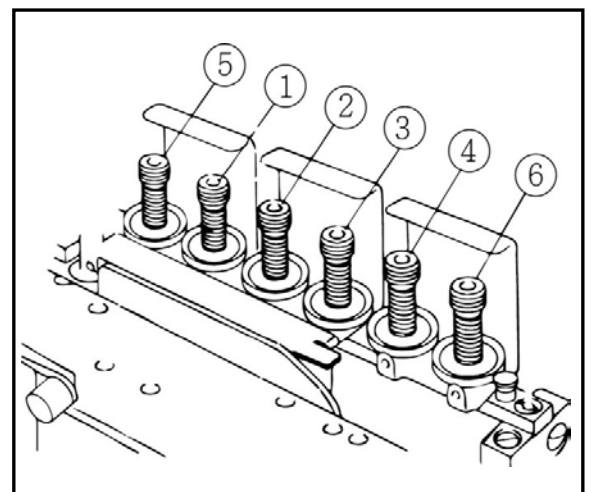

Fig. 24
Thread tension can be adjusted through the tension nuts ① - ⑥ depending on the material of fabric and the type of thread, seam width, stitch length, and other sewing conditions. (Fig. 24)
① - ④ : needle threads